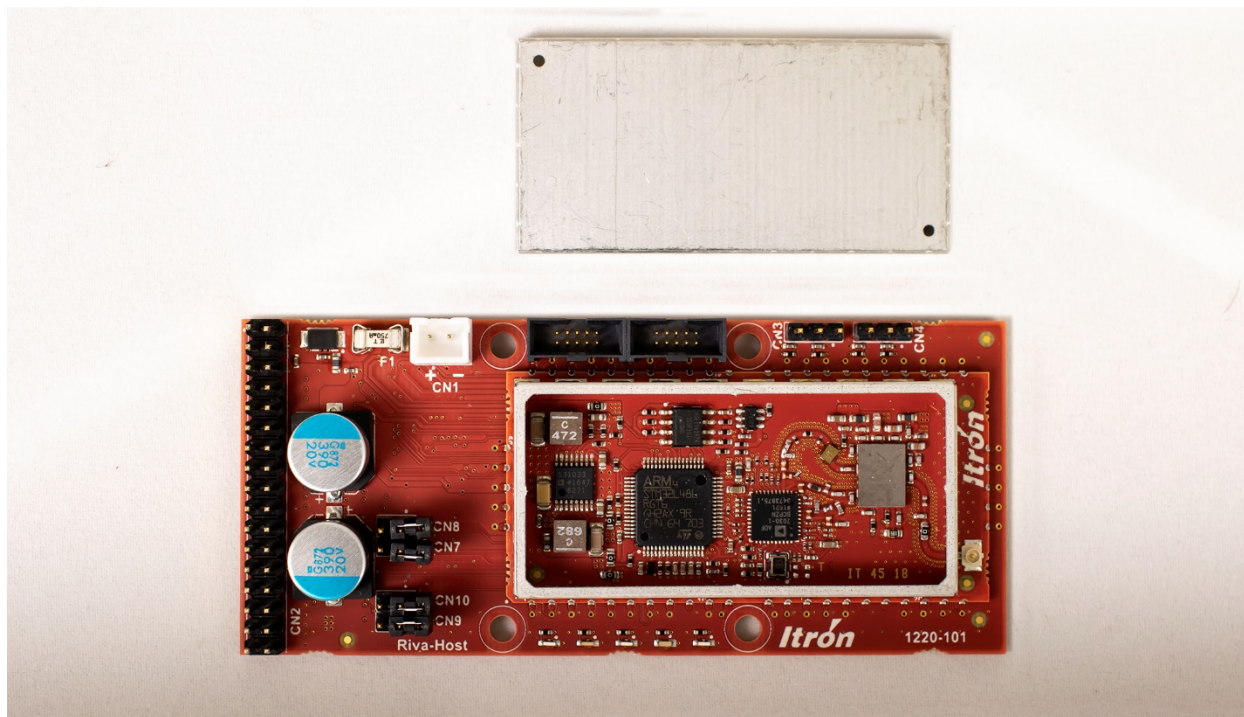

Figure 2: Itron Riva Modular LE mounted on host board and with shield removed
The Itron Riva Modular LE (module) is a single full modular low energy radio communications device. The module is designed for integration into 3rd party host devices wanting to communicate by radio frequency (RF) on an Itron Riva network. As shown in Figure 2, the module is contained inside the silver rectangular perimeter and is fully shielded (shield is removed in this image). The module and can reside on an Itron host board or be integrated with any host as a standalone module.